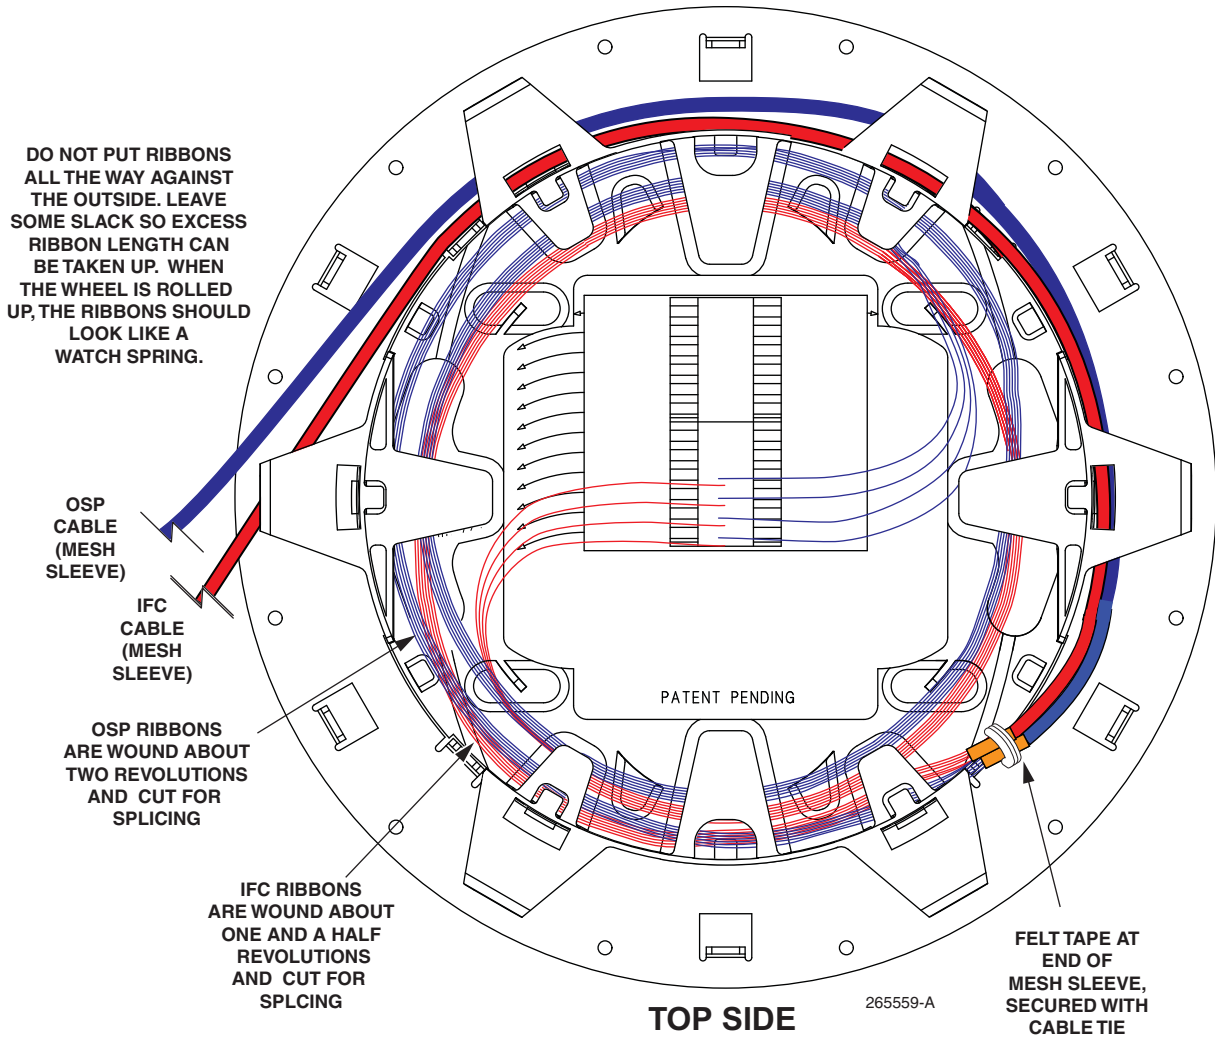

Figure 24. Clockwise Roll-up (4 Stacked Traditional Ribbons Matrix per Tube)
2. Prepare and splice fibers. Splice all fibers first before placing finished splices into splice chip. Bundle all ribbons at the sleeve/ribbon junction point and carefully route bundle around the inside of splice tray. Place splices into splice chip using the center most tray locations. See Figure 24.